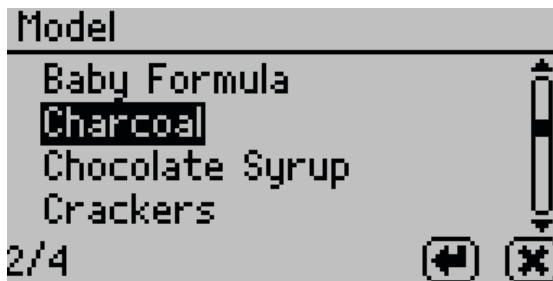

Figure 17 Moisture content model list
10. Scroll through the reference models for the desired product (Figure 17).